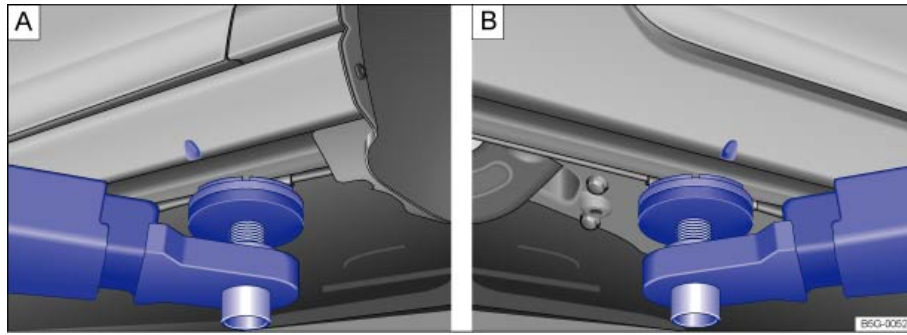

Fig. 175 A: Lifting point at the front. B: Lifting point at rear for lifting the vehicle using a workshop hoist or floor jack.
The vehicle may only be raised at the lift points shown in the illustration ⇒ fig. 175. If the vehicle is lifted at different points, vehicle damage ⇒  and serious injuries may occur ⇒ .
- Always lift your vehicle only at the designated lift points shown in the illustration ⇒ fig. 175. Not using the designated lift points can cause the vehicle to fall off the floor jack when heavy parts such as the engine or transmission are removed.